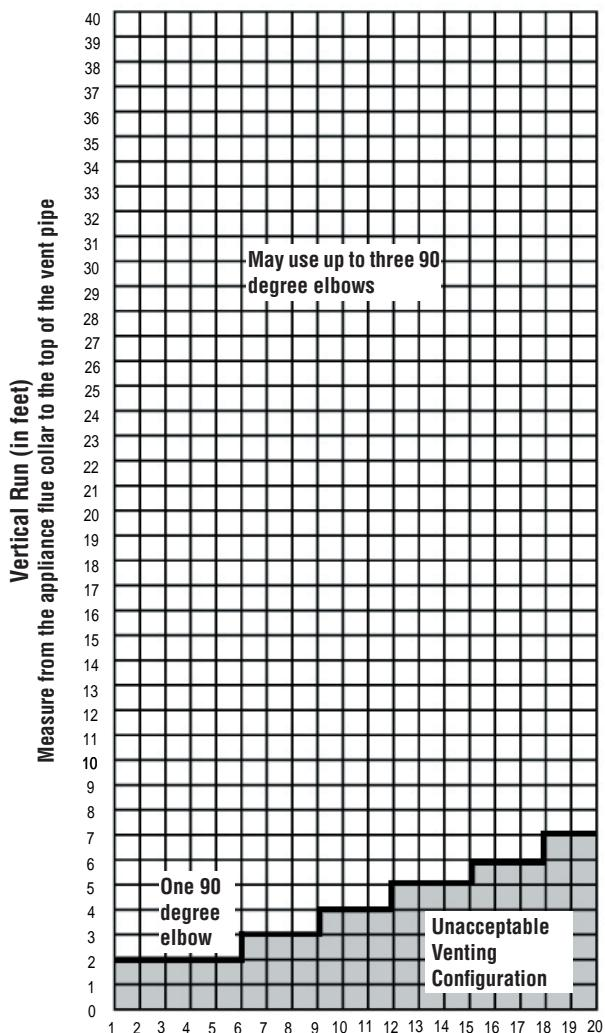

Figure 13 Horizontal Run (in feet)
IMPORTANT: Do not exceed the maximum horizontal run allowed (see Figure 13 & 14).
The horizontal run may extend up to 20 feet (6 meters) and include a vertical rise of up to 40 feet (12 meters) - see Figure 13. Horizontal termination must meet the criteria shown in Figures 4 and 5.
- Approved vent systems must terminate above and including the heavy line in Figure 13.